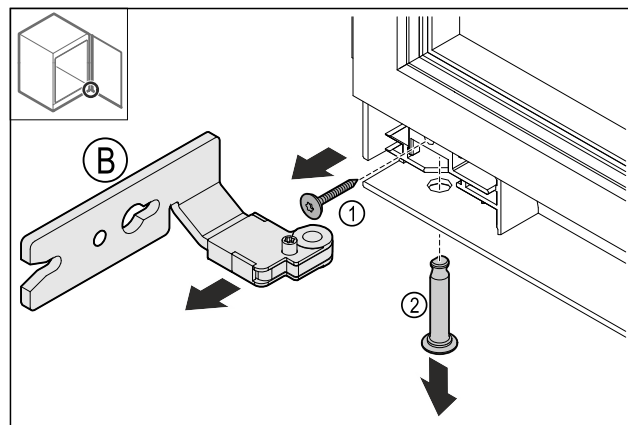

Fig. 14
- ▶ Remove the screw Fig. 14 (1).
- ▶ Remove the pin Fig. 14 (2).
- ▶ Remove the hinge Fig. 14 (B).